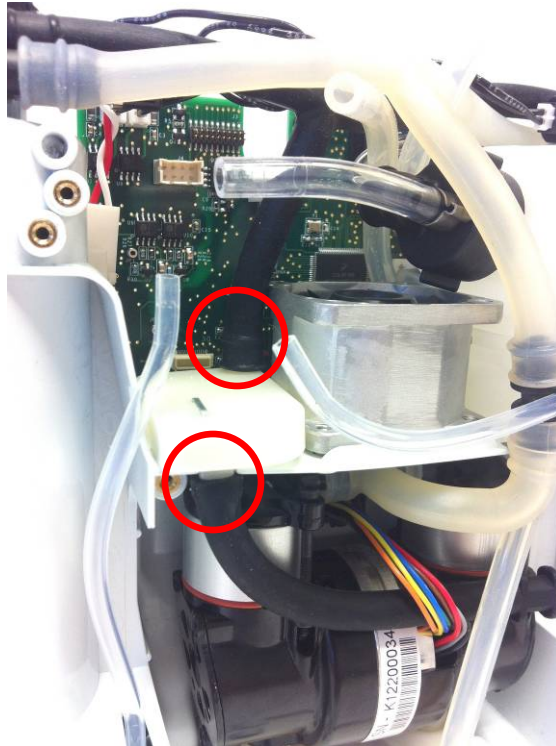

Figure 13: Muffler tubing for removal
7. The muffler is now accessible. Remove the exhaust T tube from the muffler's upper connector and the straight exhaust tube from the muffler's lower connector (Figure 13).
2. Reattach the exhaust T tube to the top connector and the straight exhaust tube to the lower connector (Figure 13).